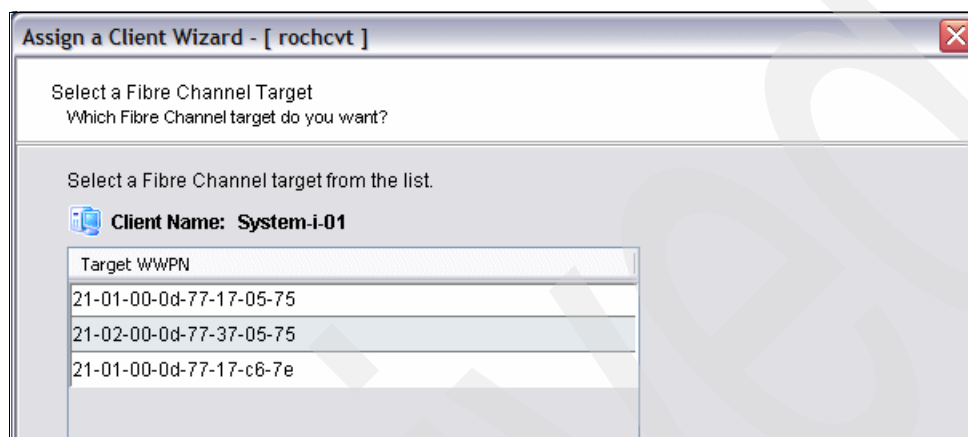

Figure 5-51 Selecting a target WWPN
3. In the Select a Fibre Channel Target panel (Figure 5-51), select the Fibre Channel HBA to use for the connection to the host. This selection is available only if several paths from the host to the TS7510 exist. This means that several zones must be created, because only one initiator and only one target should be in one zone.